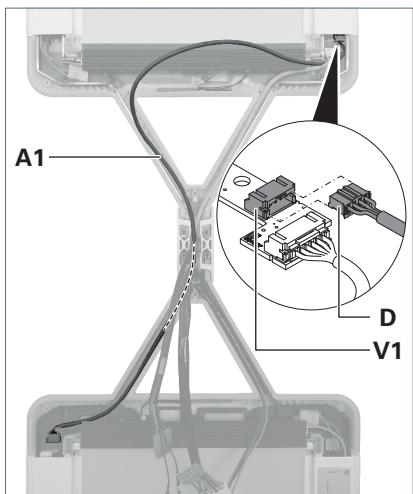

Fig. 12: Connecting the control cable.
- ▶ Lay the control cable **A1** of the stranded wire set further, into the supporting arm of the luminaire head 1, see Fig. 12.